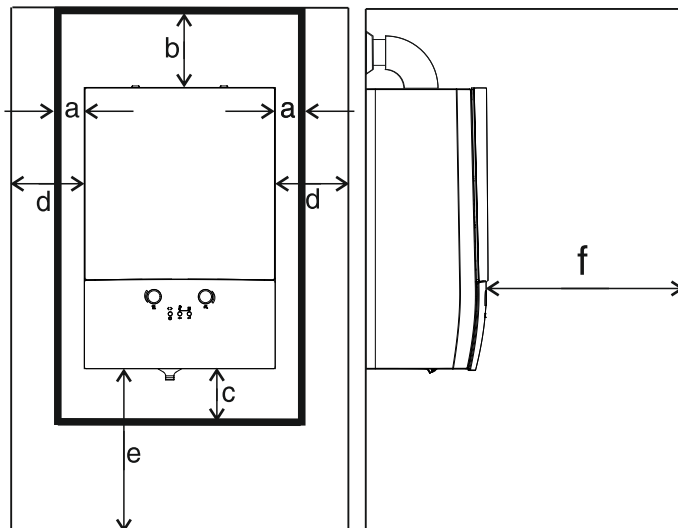

figure-11, Required/recommended clearances
- ❑ The following minimum clearances are required for servicing: 180 mm above the casing*, 200 mm below, and 10 mm at each side. 500 mm at the front clearance may be realized by opening a cupboard door. Refer to figure-11 and table-3.
- ❑ For easier use of control panel, it is recommended that boiler bottom is 1500 mm from the floor, for easier part replacement side clearances should be 50 mm where applicable. Refer to figure-11 and table-3.